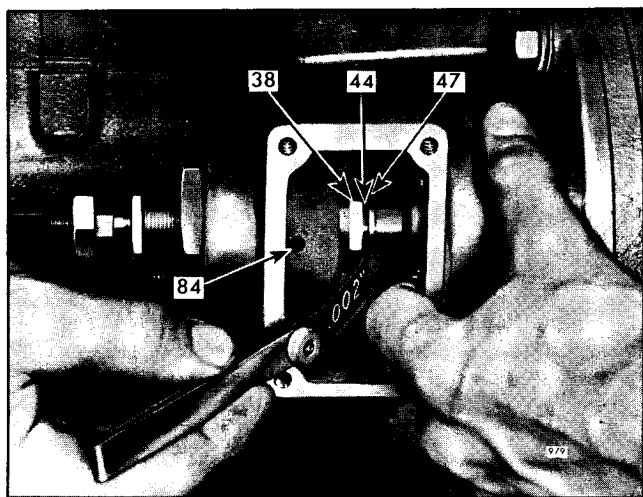
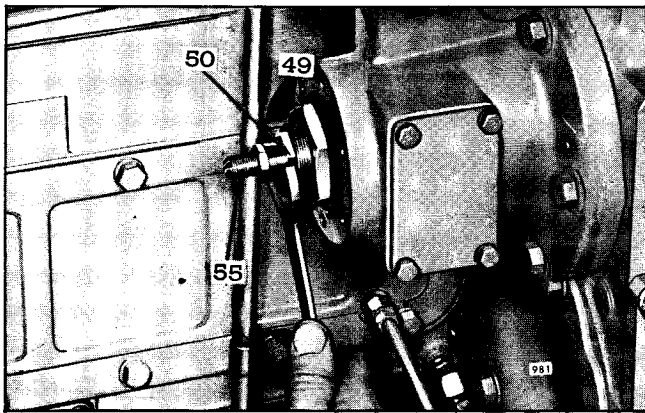
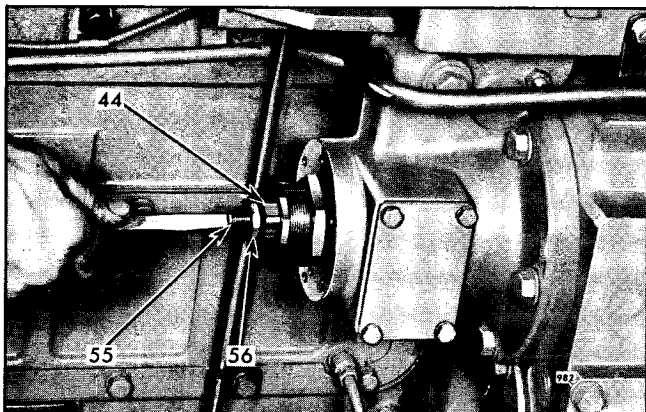

Fig. 1 - Setting Governor Gap
Fig. 3 - Adjusting Maximum No-Load Speed
Fig. 4 - Adjusting Idle Speed
5. Refer to Fig. 4 and loosen idle speed adjusting screw lock nut (56), then back out adjusting screw (55) approximately 3/4".
7. If high speed plunger (44), Fig. 1, moves so gap will not close when the low speed weights are extended, adjust tension of springs by loosening idle speed adjusting screw (55), as shown in Fig. 4, or by tightening high speed spring retainer (50), as shown in Fig. 3, so high speed plunger will not move when low speed weight is extended.
8. While holding the low speed weight fully extended, measure the gap between the low speed spring seat (47) and the high speed plunger (44),
as shown in Fig. 1. The gap should measure .0015" to .002".
9. If the gap varies from the specifications of .0015" to .002", loosen the set screw (84) inside of governor weight housing, see Fig. 1, and turn gap adjusting nut (38) to get the .0015" to .002" gap.
11. If the gap is .0015" to .002" or slightly more when holding the second weight extended, no further check is necessary; however, if gap is less than .0015" to .002", turn the gap adjusting nut (38) as required to get the proper .0015" to .002" gap. Tighten set screw (84).
3. Start engine and warm up to operating temperature. Then, without any load on the engine, place the throttle control lever (12) in FULL FUEL position and turn the high speed retainer (50) in as shown in Fig. 3 until the engine is operating at 1920-1950 r.p.m. no-load speed.
1. With the engine running and warmed to operating temperature, refer to Fig. 4 and turn the idle adjusting screw IN or OUT until engine is operating at approximately 15 r.p.m. below the recommended idle speed.